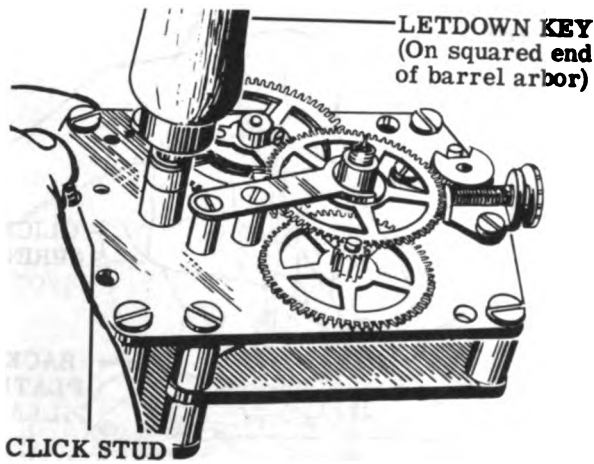

Figure 52
1. Before doing any disassembly work, let down the mainspring. Place the mainspring letdown key (Tool No. 5A) over the squared end of the barrel arbor and hold it firmly with the fingers of one hand. With the other hand hold the movement and press the click stud aside with the thumb as shown in Fig. 52, so that the ratchet wheel is disengaged from the click. The click will not disengage from the ratchet wheel when you press on the stud. To do this you must turn the winding key a very small amount (less than 1/8 of a turn) in a clockwise direction. When you do this you will feel the click disengage from the ratchet wheel and the force of the mainspring will be felt in the hand holding the letdown key. Allow the letdown key to spin slowly in the fingers until the mainspring is completely run down.